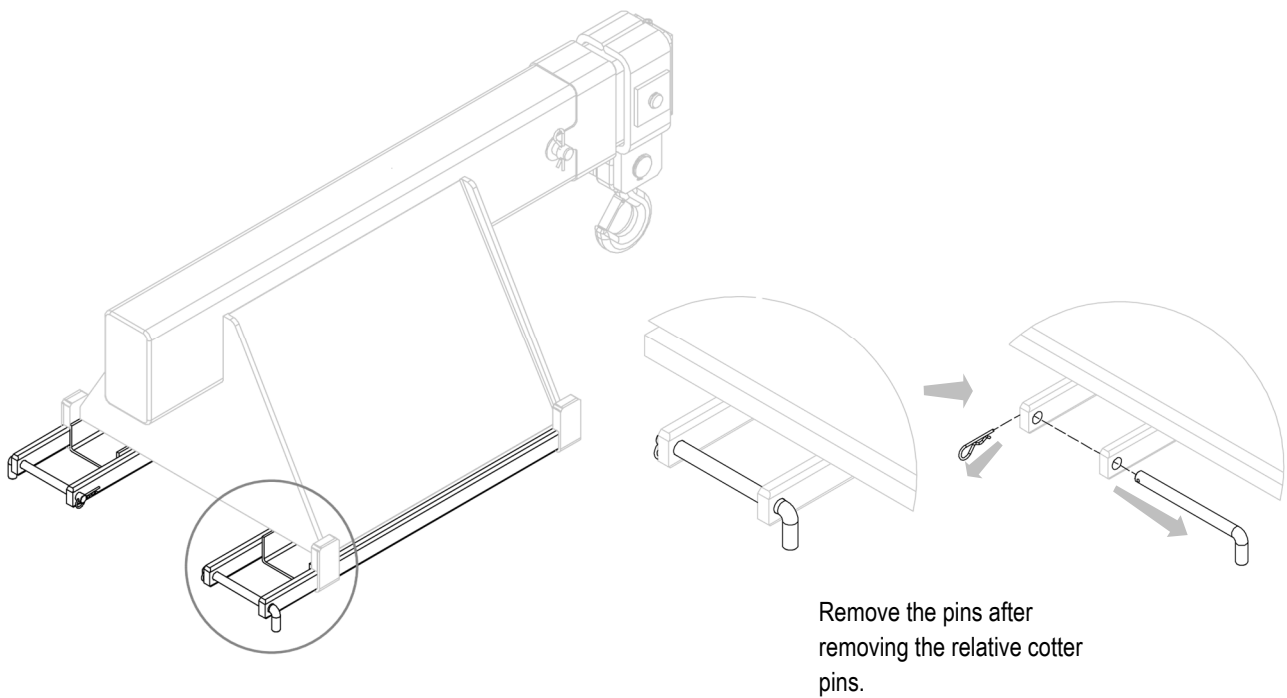

Figure 6
4. Remove, if already installed, the fork stops (see *Figure 6*).
1. Remove the fork stops as shown in *Figure 6* on page 13.